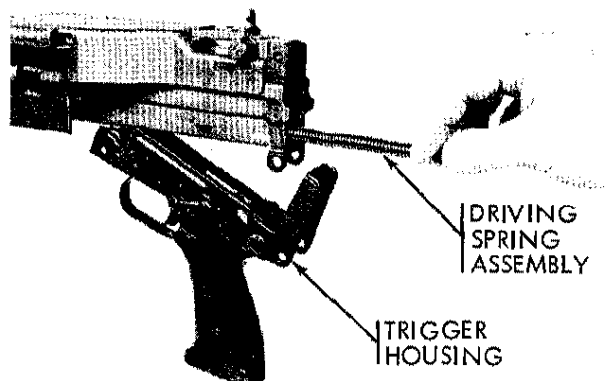

FIGURE 8. REMOVING THE DRIVING
(2) Holding the machinegun with the left hand under the receiver, muzzle pointing down, pull out the take-down pin with the right hand until the trigger housing group is allowed to pivot downward (fig. 8). The take-down pin cannot be removed from the trigger housing group.
(3) Still holding the open weapon in the left hand, grasp the driving spring (fig. 8) and remove.